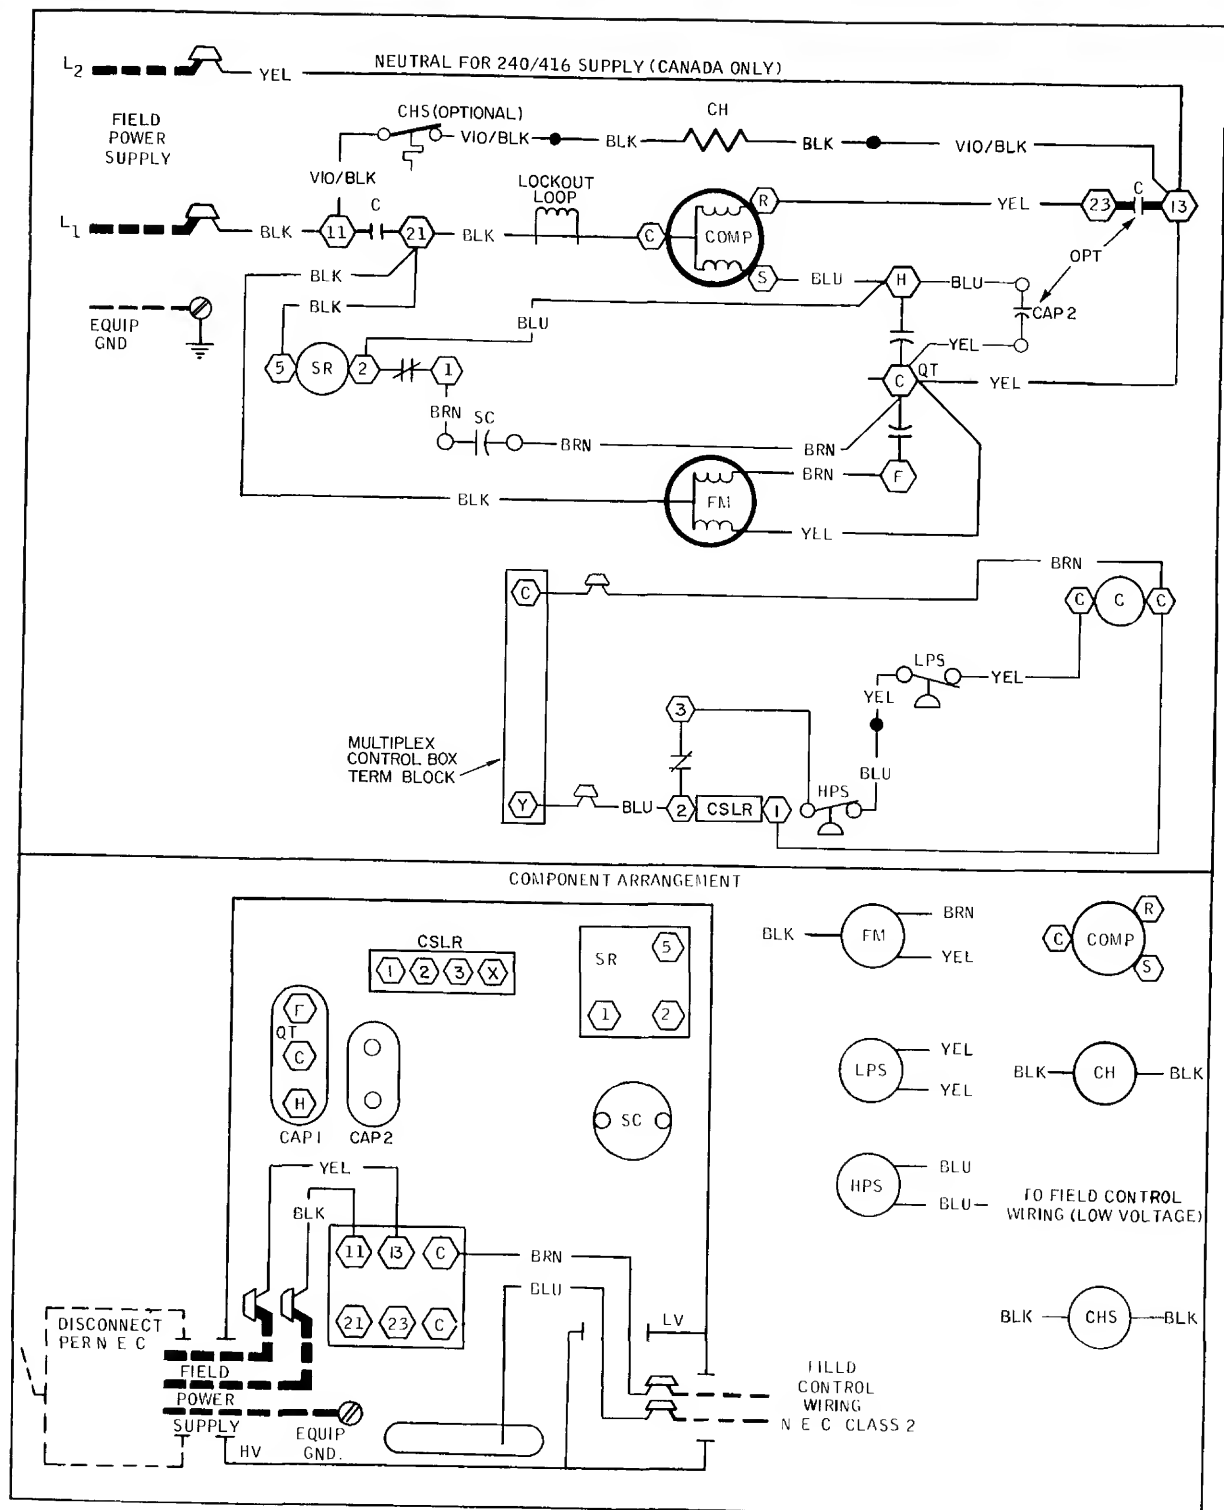

Fig. 11 — Wiring Schematic, 38EHX Condensing Unit
1. Route 24-v control wires through control wiring hole and connect to pigtails supplied with unit (Fig. 3). Splice control leads to brown and blue pigtails on all 38EHX units. See wiring labels, Fig. 11.